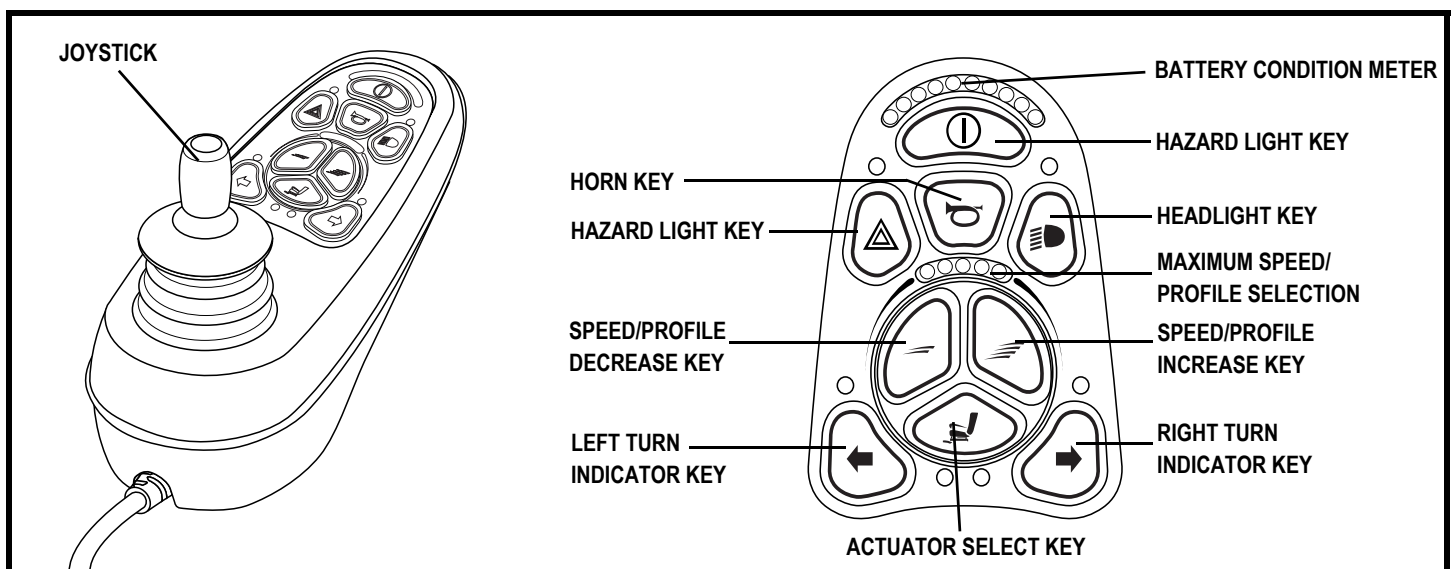

Figure 11. VR2 9-key Controller and Keypad
1. Push the on/off key to power on the chair and the controller. See figure 11.
2. Push the desired actuator key to select actuator mode. See figure 11.
5. Push the on/off key to return to drive mode. See figure 11.